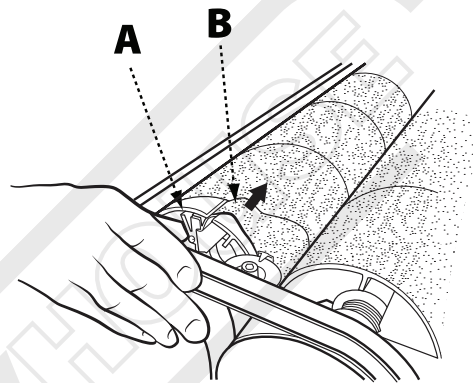

FIG. 4
2. Locate the spring-loaded locking clamp (A) on the right end of the drum. Squeeze the clamp open and remove the end of the sanding belt (B) from the drum slot. See Fig. 4.